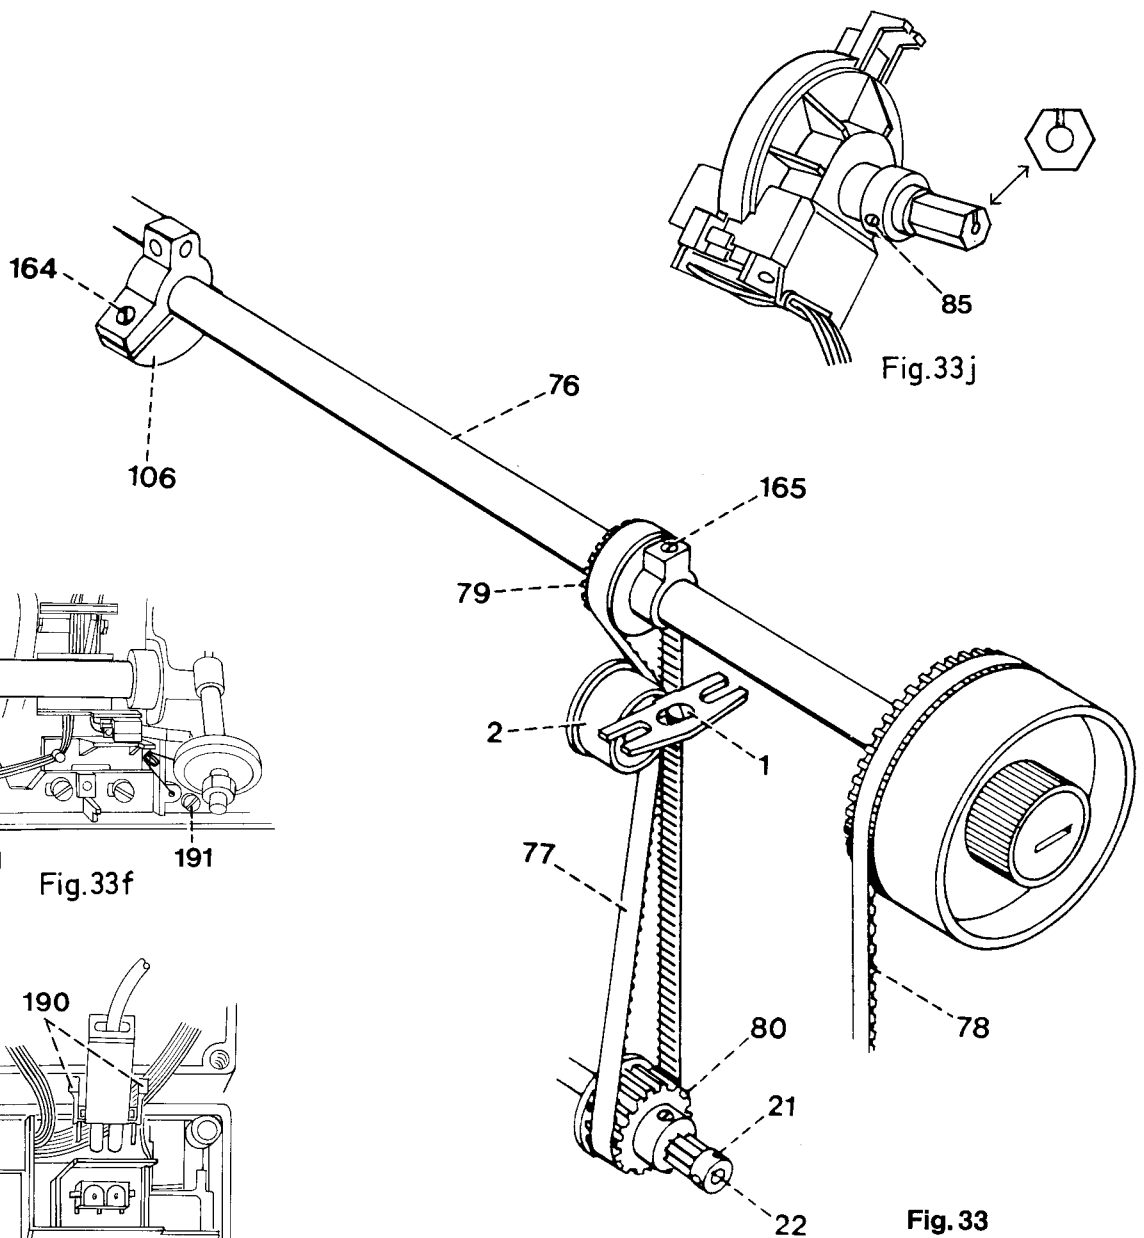

Fig. 33
Fig. 33 g
Fig. 33 h
Fig. 33 f
Fig. 33 i
- Loosen screw 164 in needle bar crank 106 just sufficiently to allow the crank to be turned on its shaft against resistance (Fig. 33).